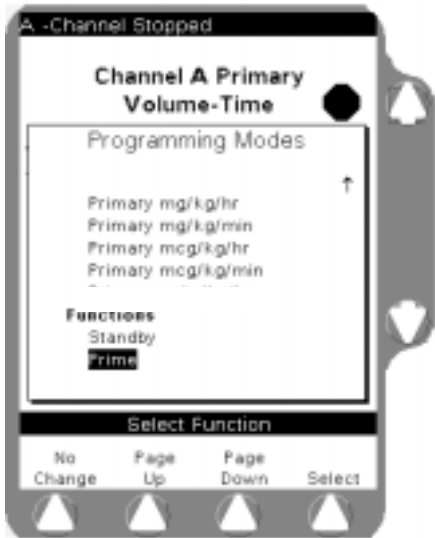

Figure 5-29 Programming Modes Menu
- Use the $\uparrow\downarrow$ keys to highlight Prime (under Functions), then press the **Select** soft key (Figure 5-29).